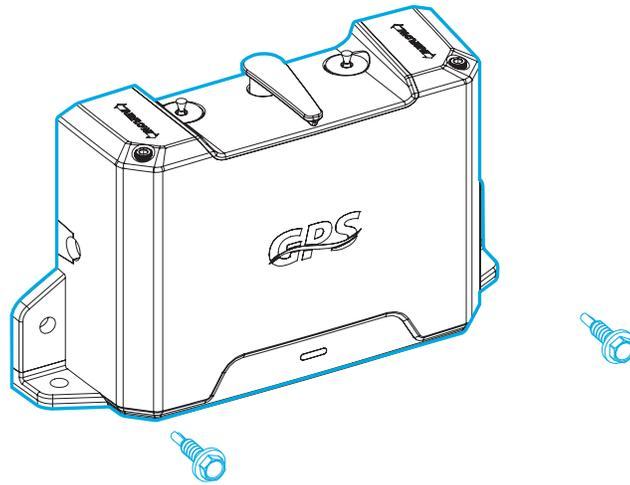
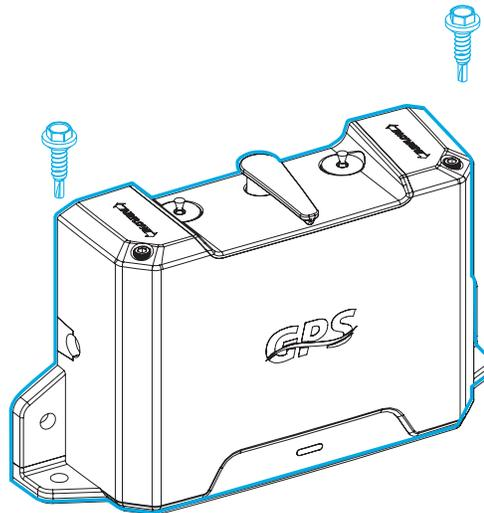

Figure 3
Figure 4
3. If there is not a ferrous material available to attract the magnet use the self drilling sheet metal screws and securely attach the surface. See figure 3 and figure 4.